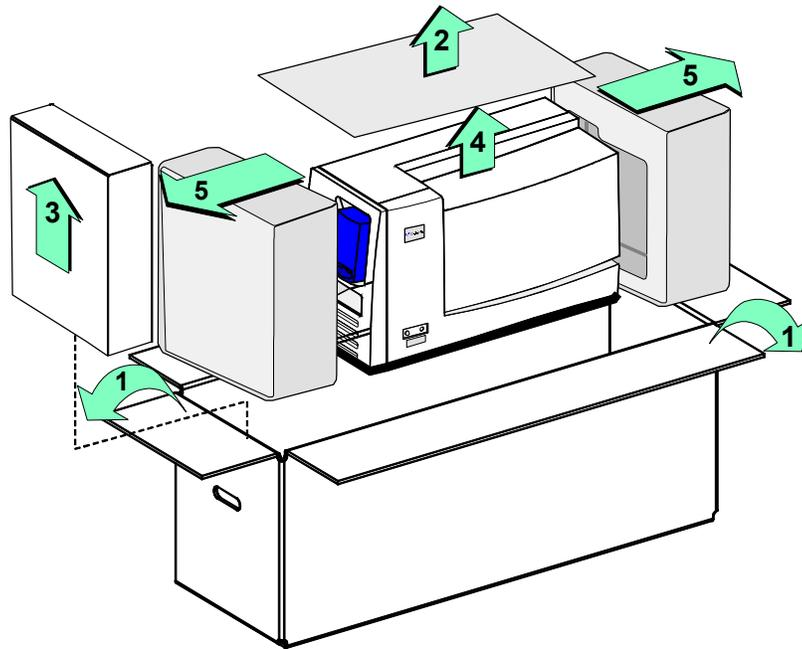

Figure 7-1: Unpack the printer
- 3 Open the shipping carton (step 1 in Figure 7-1).
- 4 Remove the Quick Install Chart. The options included with the printer are checked on the chart (step 2 in Figure 7-1).
- 5 Remove the accessories box (step 3 in Figure 7-1).
- 6 Lift the printer from the carton (step 4 in Figure 7-1) and place it on a counter or other solid surface.
- 7 Slide the shipping supports off the ends of the printer and place the entire printer on a counter or other solid surface (step 5 in Figure 7-1).